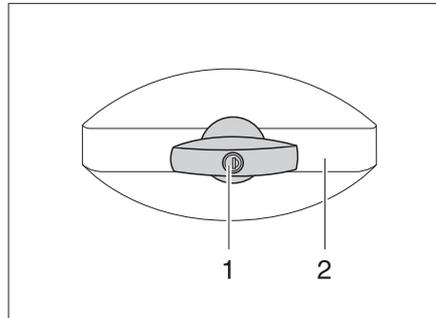

Fig. 30 Flap lock, elliptical, locked
- Insert the key into the locking cylinder (Fig. 30,1) and turn a quarter turn anticlockwise. Lock handle (Fig. 30,2) is released.